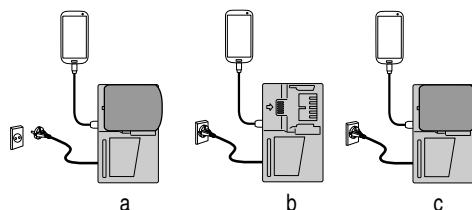

Fig. 6
- Charging a USB device by battery (Fig. 6-a)
- Charging a USB device from a electrical outlet (Fig. 6-b)
- Charging a USB device and battery from a electrical outlet (Fig. 6-c)